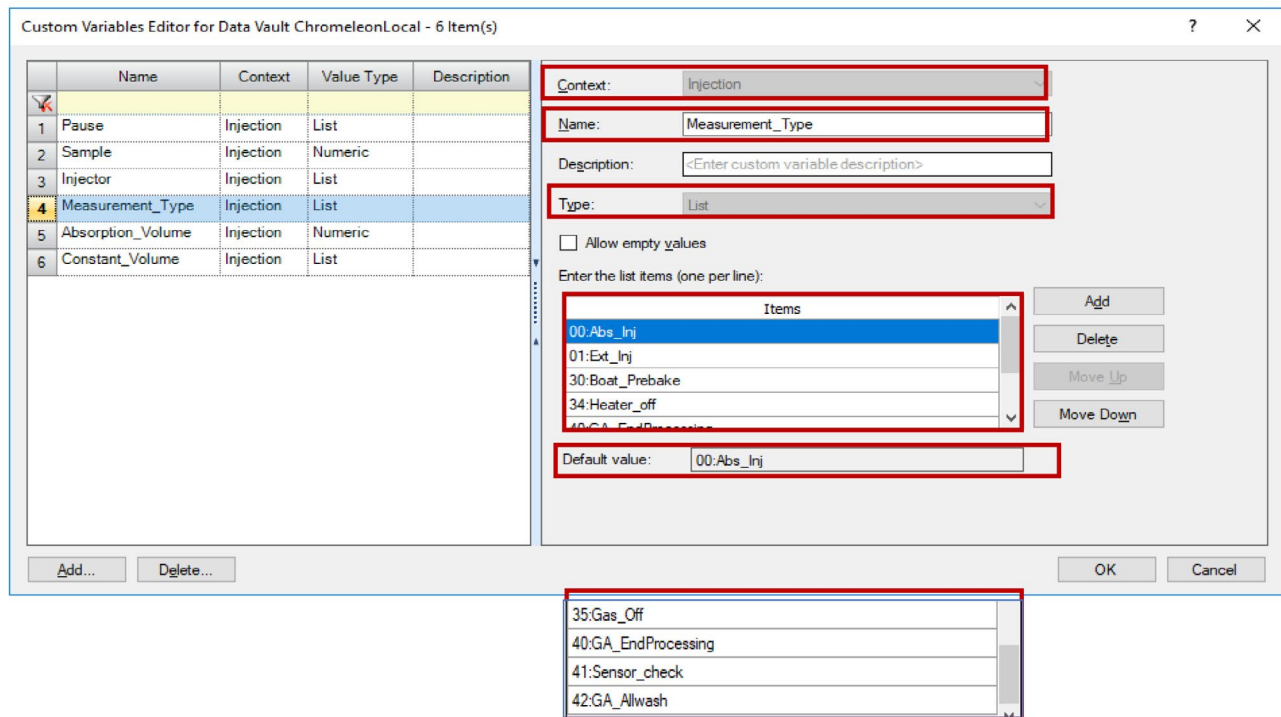

Figure 13. Creating custom variables: Measurement_Type
4. Create the custom variables using the data in Table 2. Select OK to close the window. Figure 13 shows the Custom Variable for Measurement_Type.